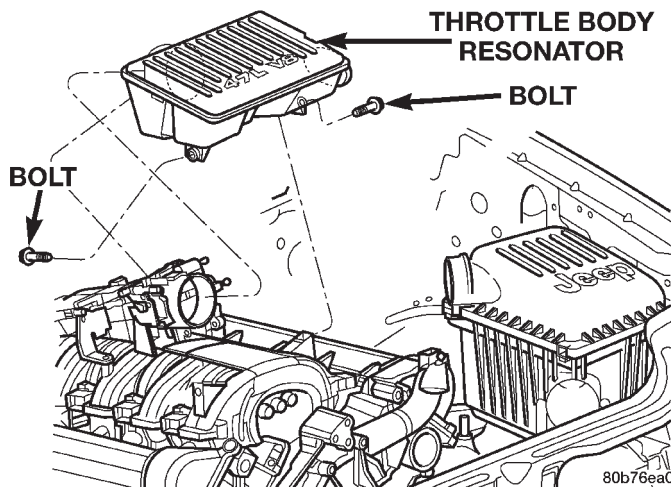

Fig. 38 Throttle Body Resonator
(2) Remove air cleaner housing and throttle body resonator (Fig. 38).
(1) Disconnect and remove battery from engine compartment.
(3) Disconnect battery lugs from Power Distribution Center (PDC).
(4) Un-clip PDC and move to the left side of the fender well.
(5) Drain cooling system, below the level of the heater hoses. Refer to Group 7, Cooling System.
(6) Remove accessory drive belt.
(7) Remove air conditioning compressor retaining bolts and move compressor to the left.
(8) Remove battery tray and disconnect battery temperature sensor.
(9) Remove heater hoses from front of engine.
(10) Loosen air conditioning accumulator bracket.
(11) Disconnect injector and ignition coil connectors.
(12) Disconnect and remove positive crankcase ventilation (PCV) hose.